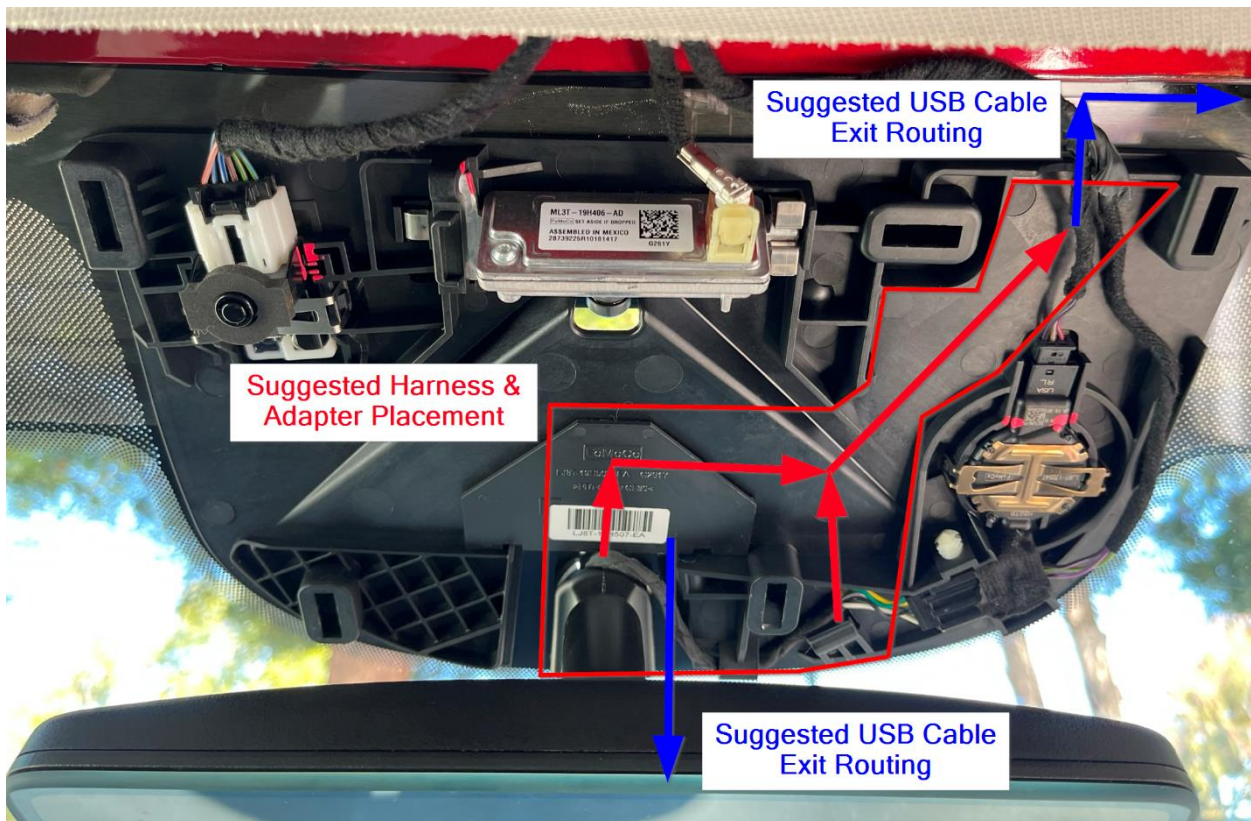
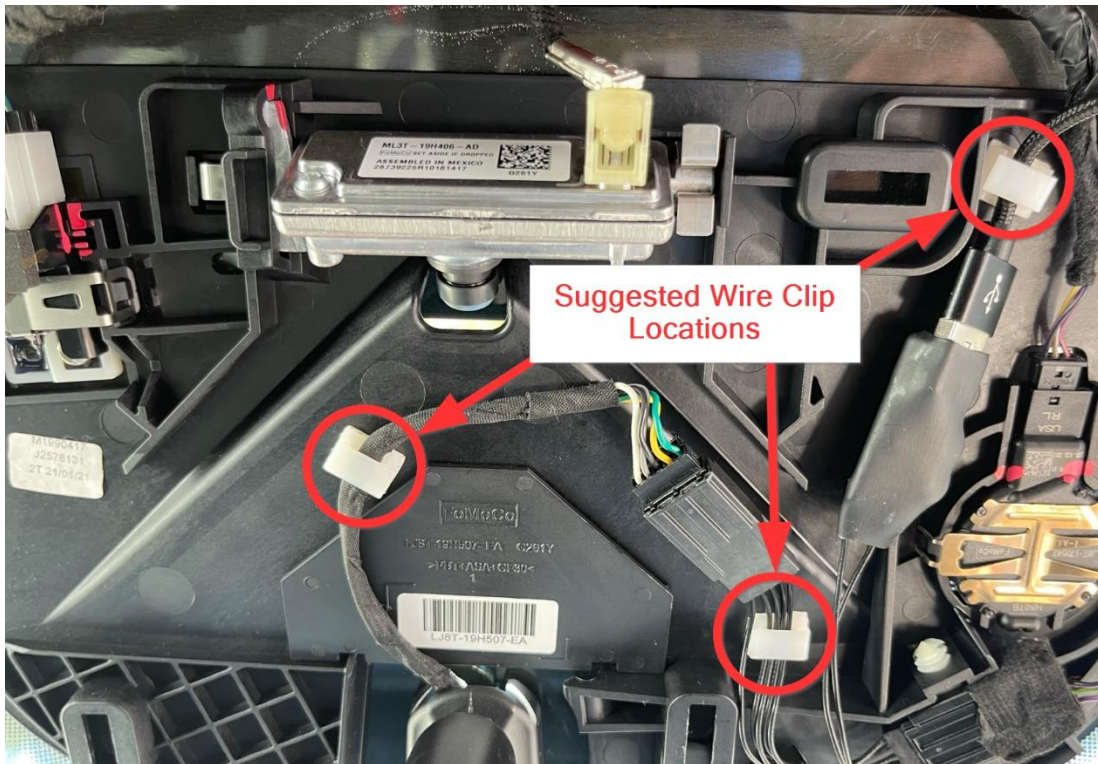
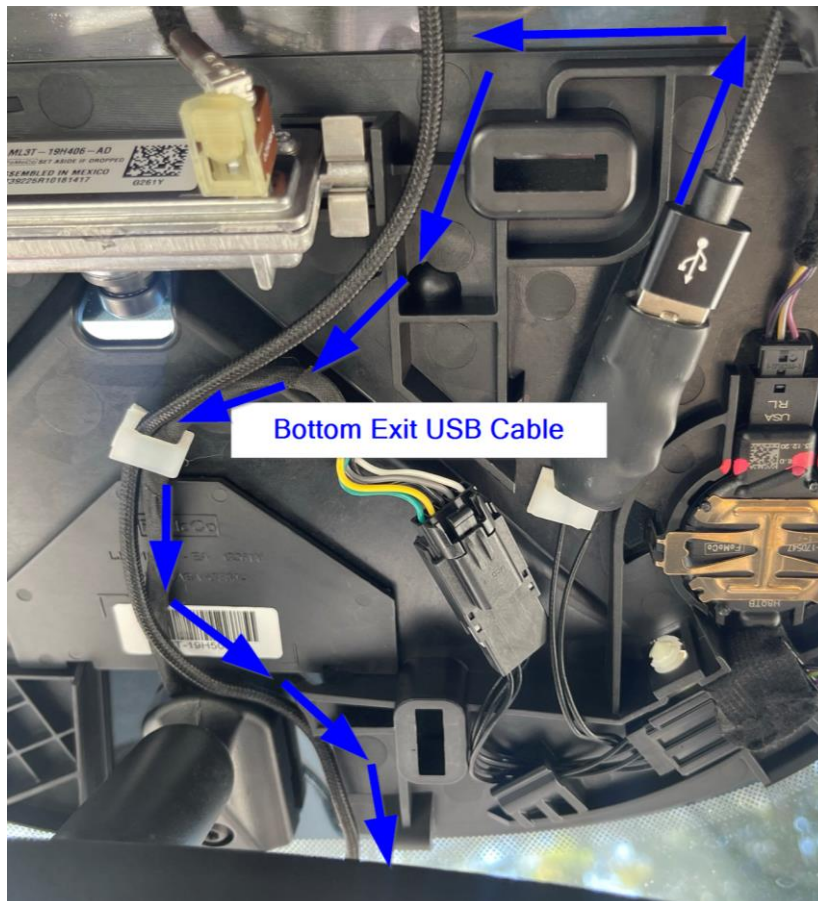

Figure 5: Recommended Adapter Placement and Wire Routing
Figure 6: Completed Installation Using Suggested Wire Clip Locations. USB cable exits at top right towards passenger.
Figure 7: Bottom Exiting USB Cable. The space behind the headliner can be used to hide excess wiring.
STEP 6: Layout the adapter and wiring. Due to limited clearance under the plastic cover, we suggest arranging the adapter and wiring to avoid interference when reinstalling plastic cover. Try routing the wires along the red arrows (see Fig. 5). Recommended exits for the USB cable are shown in blue. Doing so will ensure that the plastic cover can be reinstalled flush with the windshield. Use the included wire management cable clips to aid installation. See Fig. 6 for example of completed install and suggested wire clip locations. Fig 7 shows alternate (bottom) exit for USB cable.